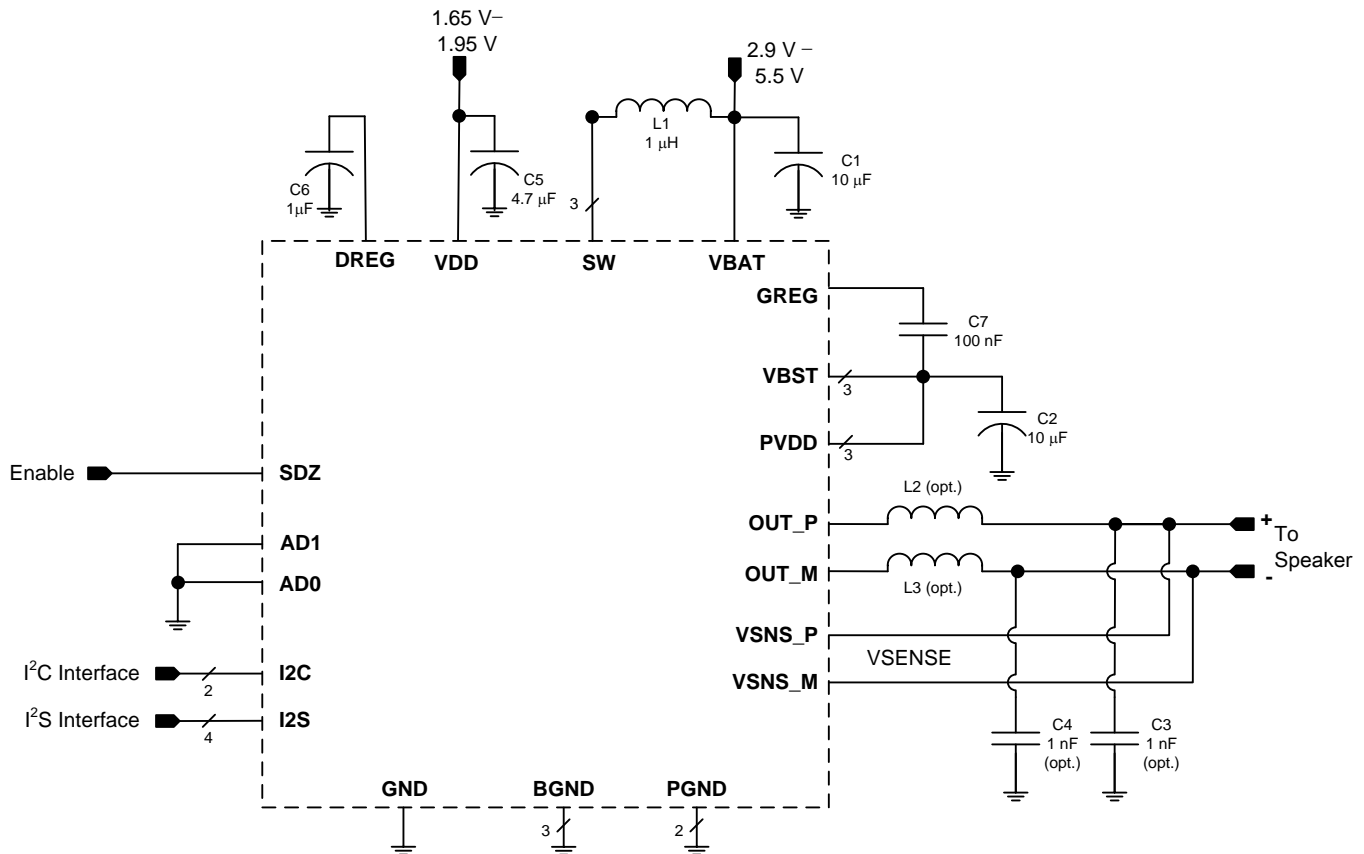

Figure 69. Typical Application - Digital Audio Input
The boost converter requires three passive devices that are labeled L1, C1 and C2 in Figure 69 and whose specifications are provided in Table 298. These specifications are based on the design of the TAS2562 and are necessary to meet the performance targets of the device. In particular, L1 should not be allowed to enter in the current saturation region. The saturation current for L1 should be > I_{LIM} to deliver Class-D peak power.
The TAS2562 supports edge-rate control to minimize EMI, but the system designer may want to include passive devices on the Class-D output devices. These passive devices that are labeled L2, L3, C3 and C4 in Figure 69 and their recommended specifications are provided in Table 298. If C3 and C4 are used, L2 and L3 must also be installed, and C3 and C4 must be placed after L2 and L3 respectively to maintain the stability of the output stage.
The boost supply (VBAT) and associated passives need to be able to support the current requirements of the device. By default, the peak current limit of the boost is set to 4A. Refer to Table 92 for information on changing the current limit. A minimum of a 10 µF capacitor is recommended on the boost supply to quickly support changes in required current. Refer to Figure 69 for the schematic.
- Use supply decoupling capacitors as shown in Figure 69 and described in Power Supplies.